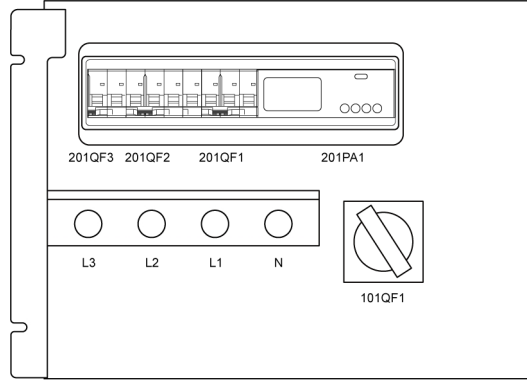
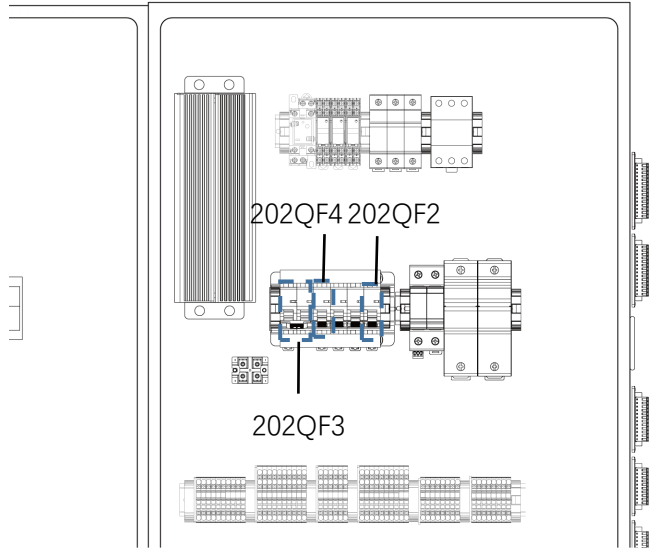

Figure.2
Figure.3
- ① Turn on the AC auxiliary power circuit breaker **201QF1**. See the Figure.2.
- ② Attach to external auxiliary power and UPS. See the “Connection steps” in the section 4.2.2. Verify that both the external AC auxiliary power input and the external UPS AC input voltages are within their specified normal ranges by utilizing a multi-meter.
- ③ Turn on the AC auxiliary power breaker **202QF3** and AC UPS breaker **202QF2**. See the Figure.3.
- ④ Turn on the lead-acid battery breaker **201QF3** and perform a vision inspection for the ring network switch by indicators' lighting up. See the Figure.2.
- ⑤ Turn on the liquid cooling system breaker **201QF2** and DC auxiliary power breaker **202QF4**. See the Figure.2 and Figure.3.
⑧ Turn on the AC breaker **101 QF1** on the AC PDU. Now the sequence to power on the equipment is finished. See the Figure.2.